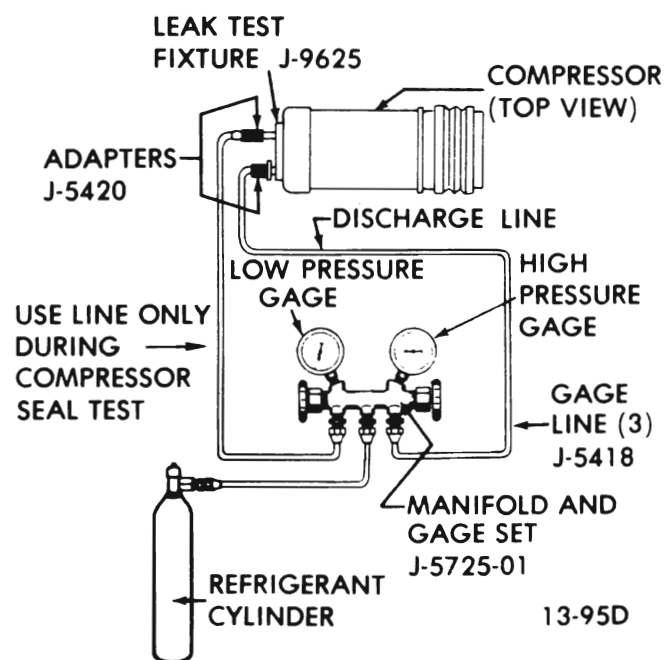

Figure 13-31 Leak Testing Shaft Seal and Seal Seat O Ring
6. Install Compressor Leak Test Fixture (J-9625) on rear head of compressor and connect gage charging lines as shown in Figure 13-31. Pressurize suction side of compressor with Refrigerant-12 vapor to drum pressure. Temporarily install the shaft nut and, with compressor horizontal and oil sump down, rotate the compressor shaft in normal direction of rotation